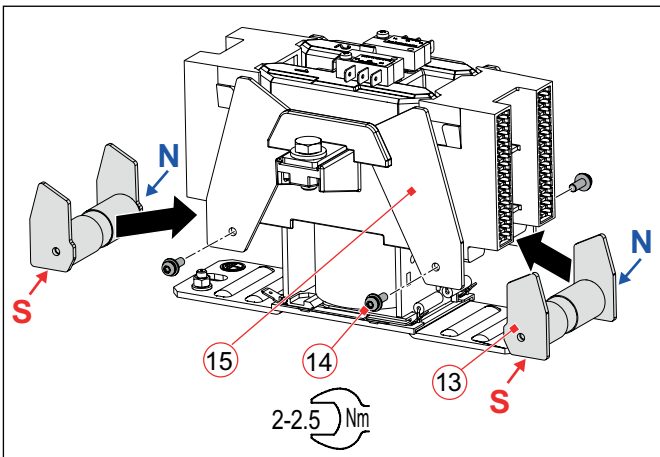

Fig. 40: C195 X/: Assembling the pole packs
▶ Before installing the pole packs (13), check the previously noted, correct alignment of the magnetic poles, see *Fig. 40*.
- ▶ Insert the two pole packs (13) one after the other into the pole plates (15) and screw them to the sides of the two pole plates (15) using the 4 screws (14).
- ▶ Tighten the 4 screws (14) with a torque of 2-2.5 Nm.